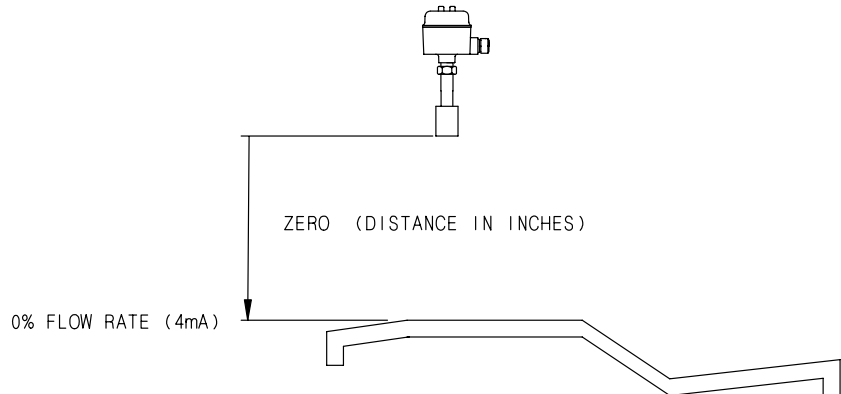

Figure 4-2
- a. With the power off, set the Zero switches in inches (to the nearest 0.1 inch) to equal the distance from the transducer face to the level that represents 0% flowrate (4mA). See *Figure 4-2*.